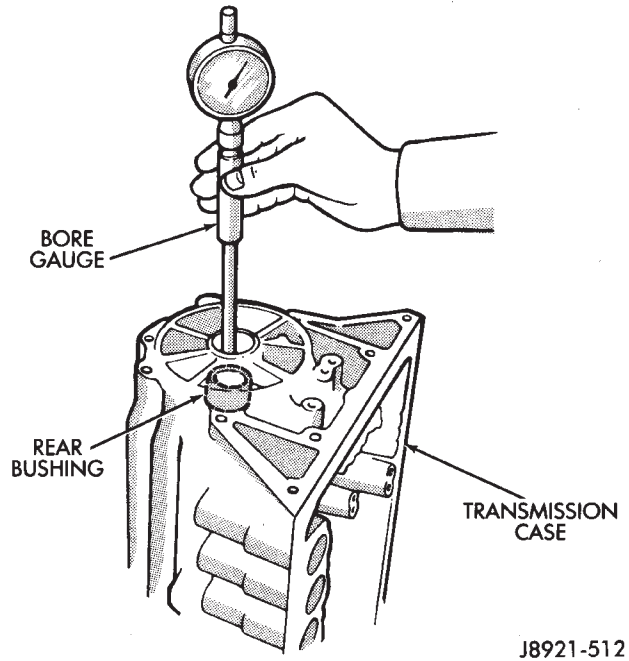

Fig. 121 Checking Rear Bushing Inside Diameter
(57) Measure inside diameter of transmission case rear bushing with bore gauge or inside micrometer (Fig. 121). Maximum allowable diameter is 38.18 mm (1.5031 in.). **Replace transmission case if bushing I.D. is greater than specified. Bushing is not serviceable.**